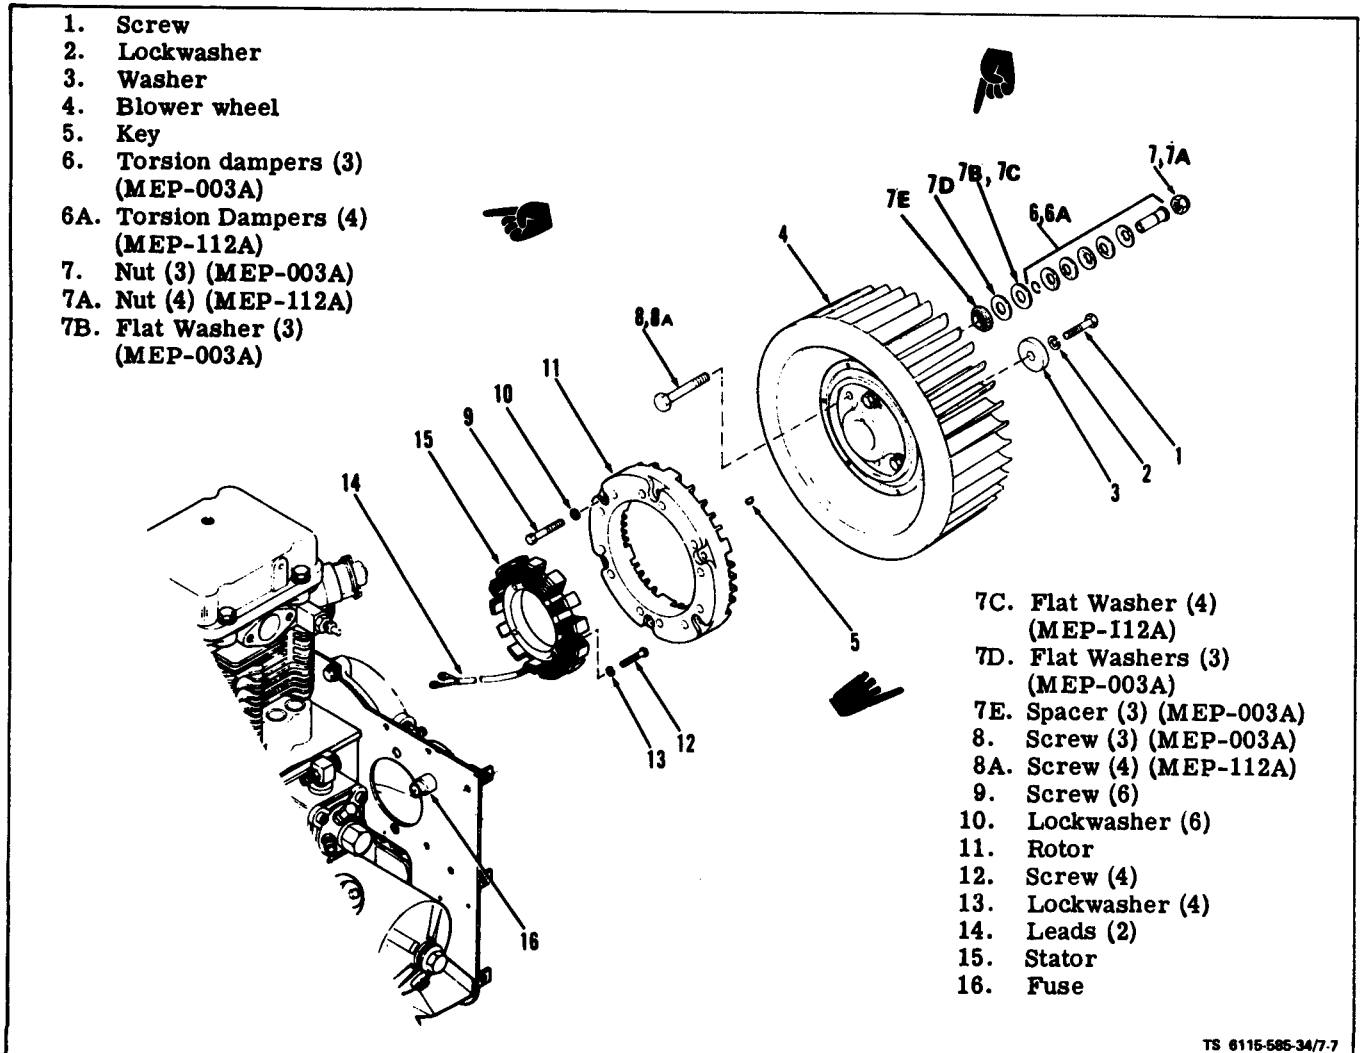

Figure 7-7. Battery Charge Alternator and Blower Wheel
a. Inspect (see figure 7-7).
(1) Refer to Operator and Organizational Maintenance Manual and remove blower housing.
(2) Check blower wheel (4) for cracks or broken fins. Check for free play between blower wheel and hub. Replace torsion damper assemblies (6) if free play is present.
b. Removal. Remove screw (1), lockwasher (2) and washer (3), attaching blower wheel to crankshaft. Use two 5/16-24 screws in blower hub and a suitable puller to remove blower wheel (4) and key (5).
(2) Check stator wiring and voltage regulator wiring for loose connections or shorts. Check fuse F 1 (16).
(1) Rotor. Refer to Operator and Organizational Maintenance Manual and remove the blower housing. Remove blower wheel assembly (4, figure 7-7) per paragraph 7-7. Remove rotor mounting screws (9) and lockwashers (10) attaching rotor(11) to blower wheel (4) and remove rotor (11).
(2) Stator. Disconnect stator leads (14, figure 7-7) from terminal block on engine back plate. Remove wire clamp from oil filter casting. Remove screws (12) and lockwashers (13) attaching stator (15) to engine and remove stator (15).